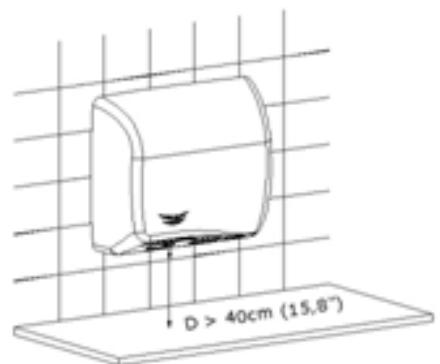

Fig. 10
6. Unscrew the screws in a counter-clockwise direction (CCW) using the supplied special tool (see figure 10).
**NOTE:** a minimum distance of 40 cm (15.8") must be allowed between any possible shelves, marble or washbasins (see figure 10). As far as possible, reflecting surfaces should be avoided within the operating range of the IR sensors.